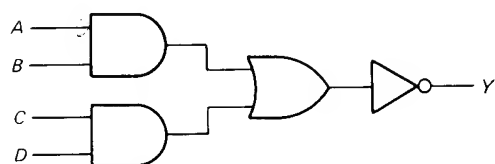

Fig. 2-24
- 2-21. What is the boolean equation for Fig. 2-24? How many ABCD input words are in the truth table? Which input words does the circuit recognize?